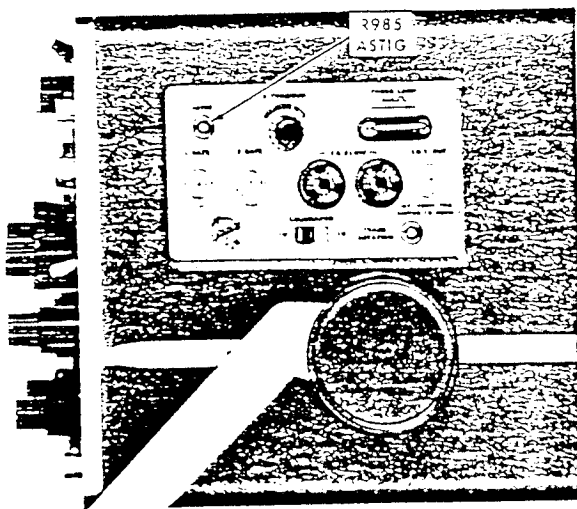

Fig. 6-15. Location of Astigmatism adjustment (side panel).
- g. Adjust—FOCUS control and ASTIG adjustment, R985 (see Fig. 6-15), for best definition of markers.